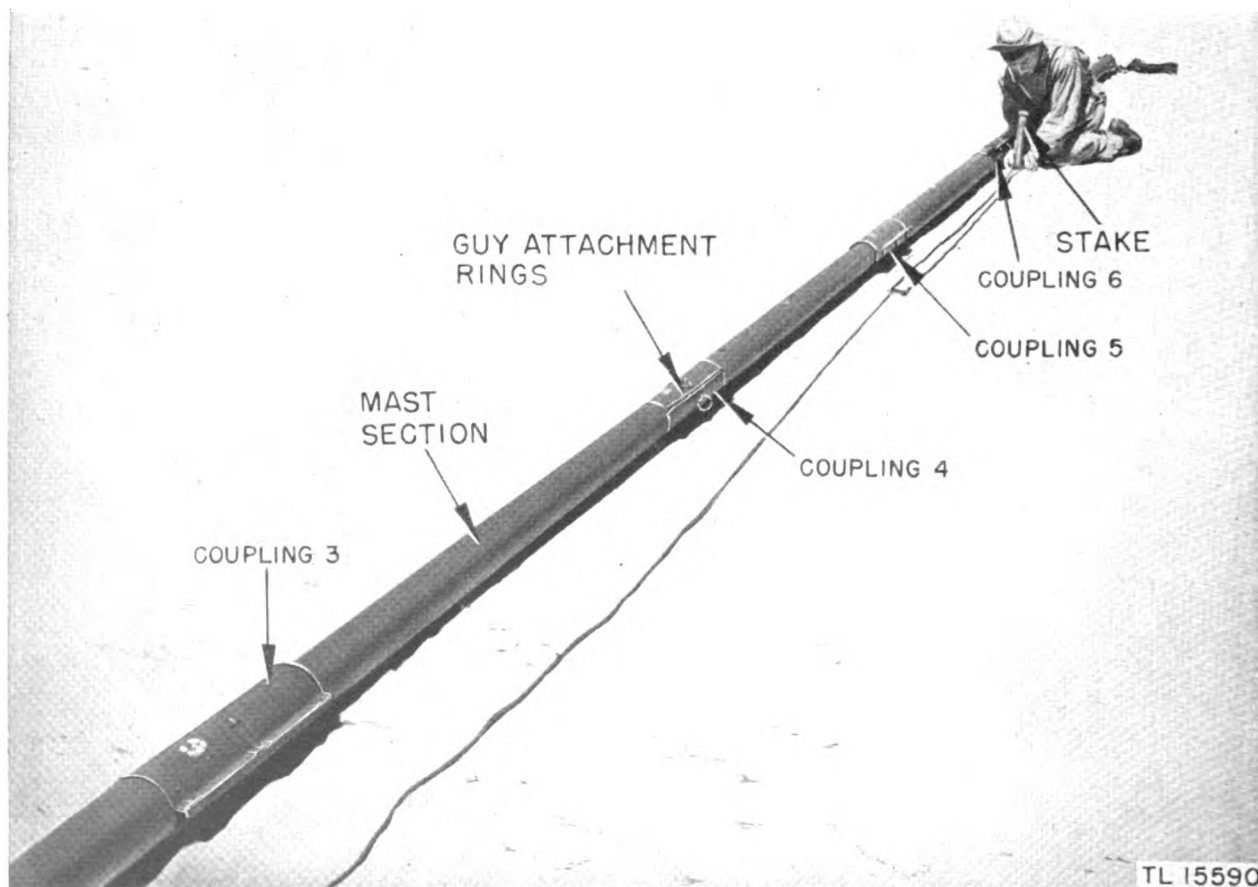

Figure 13. Guy connection detail.
(4) Lift the two ropes from the selected stake, carry the two guy ends over to the stake driven adjacent to section 6, and tie firmly around this stake (fig. 13).
(5) Select two other 50-foot guys (without boom attachment rings), hook them to two other side rings at the coupling 4, and extend each to the stakes to the right and left of the mast.
(6) Adjust the tension of these by varying the positions of the slide Fasteners FT-9.
(7) From the guy attachments at the mast head assembly, run two 68-foot guys (coded black, and less boom attachment rings) and extend each to the same stake to which the corresponding 50-foot guy was run, and tie down firmly (fig. 13).